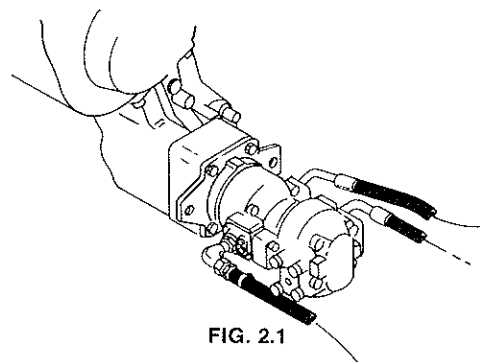

FIG. 2.1
2.1 Your new CENTURY Wrecker is totally hydraulic. It receives its power from the truck engine by means of a Power Take-Off/Pump Combination attached to the truck transmission. Since the pump is attached directly to the P.T.O., no drive line or universal joints are needed. (FIG. 2.1)